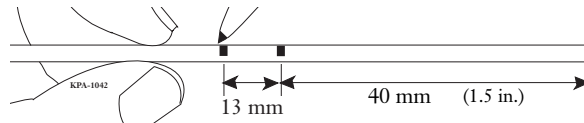

Figure 26 — Add Mark at 13 mm from First Mark
Step 2: Measure and mark an additional 13 mm from the 40 mm mark (Figure 26).